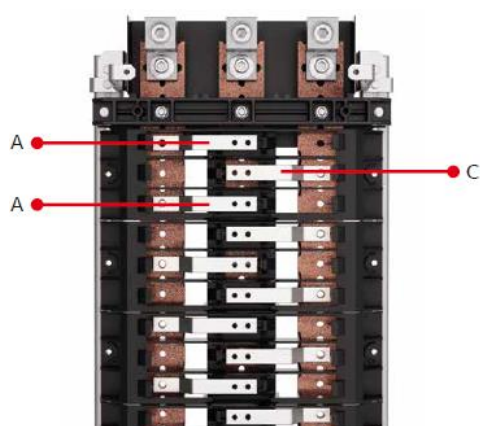

Figure 1. Step 1
**Step 1:** Remove quantity (3) A and C phase. See Figure 1.